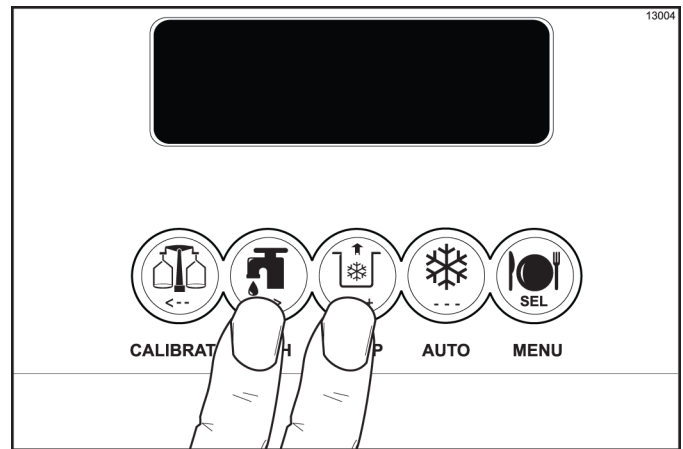

Figure 6-70
5. When the flow of product stops, press the WASH and PUMP keys, canceling the Wash and Pump modes, and close the draw valve. Discard this product. (See Figure 6-70.)